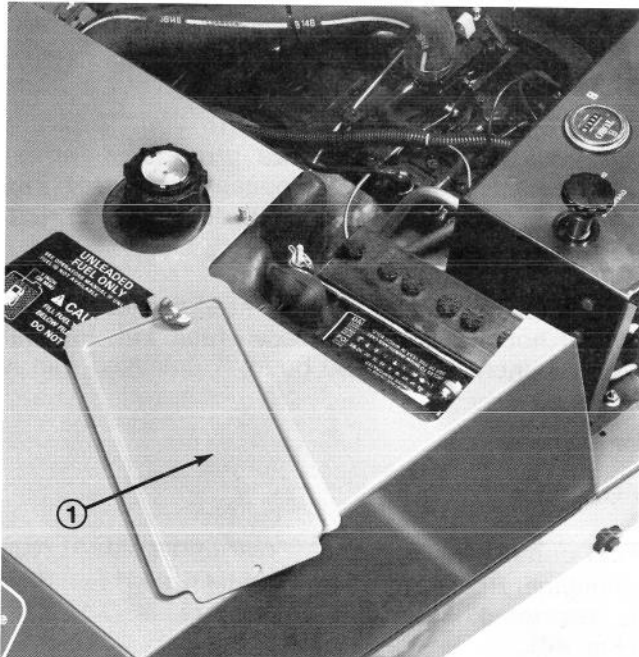

Figure 45
2. Unlatch and open engine cowl, remove the cover and check the electrolyte level every 25 operating hours or, if machine is in storage, every 30 days (Fig. 45).
1. Unlatch and open cowl over engine. Remove cover over battery (Fig. 45).